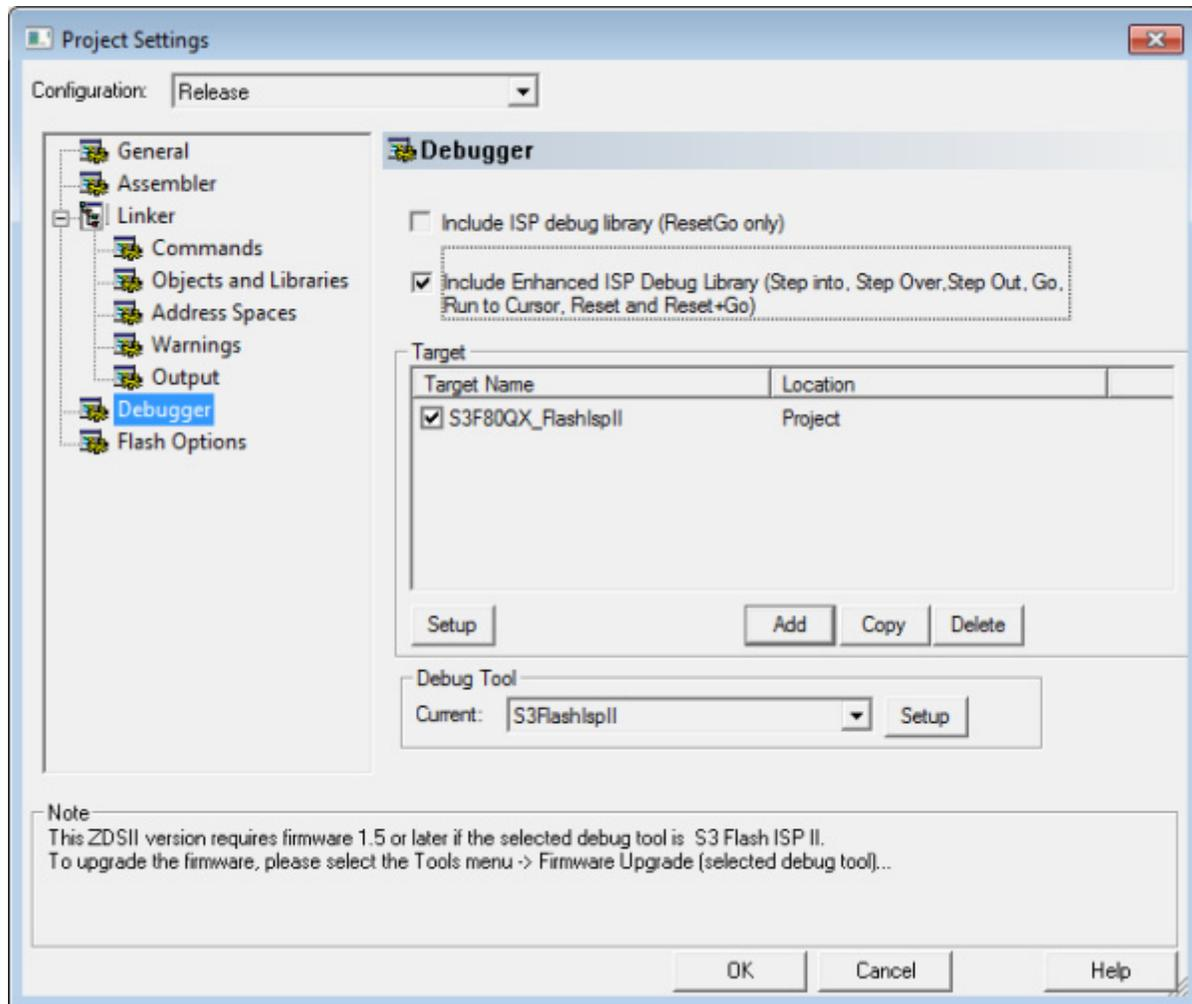

Figure 9. Select the Target and the Debug Tool
- On the Debugger page, select **S3F80QX_FlashIspII** from the Target list, then select **S3FlashIspII** from the **Debug Tool** drop-down menu, as indicated in Figure 9.